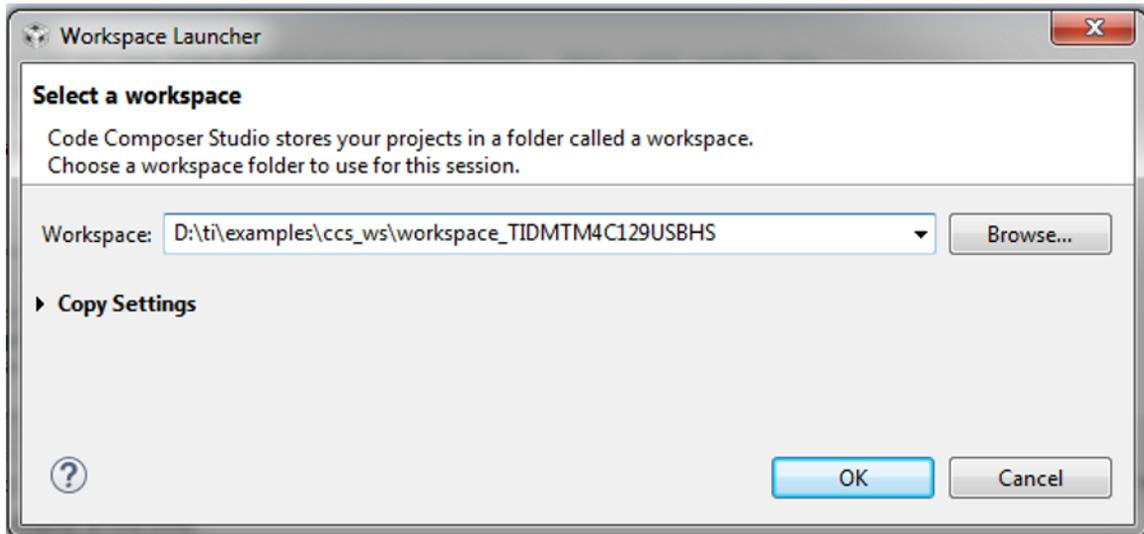

Figure 10. Creating a new workspace
3. In the pop up box, provide the name of the new workspace. As an example we have created a workspace called *workspace_TIDMTM4C129USBHS* (see Figure 10). Click *OK*.